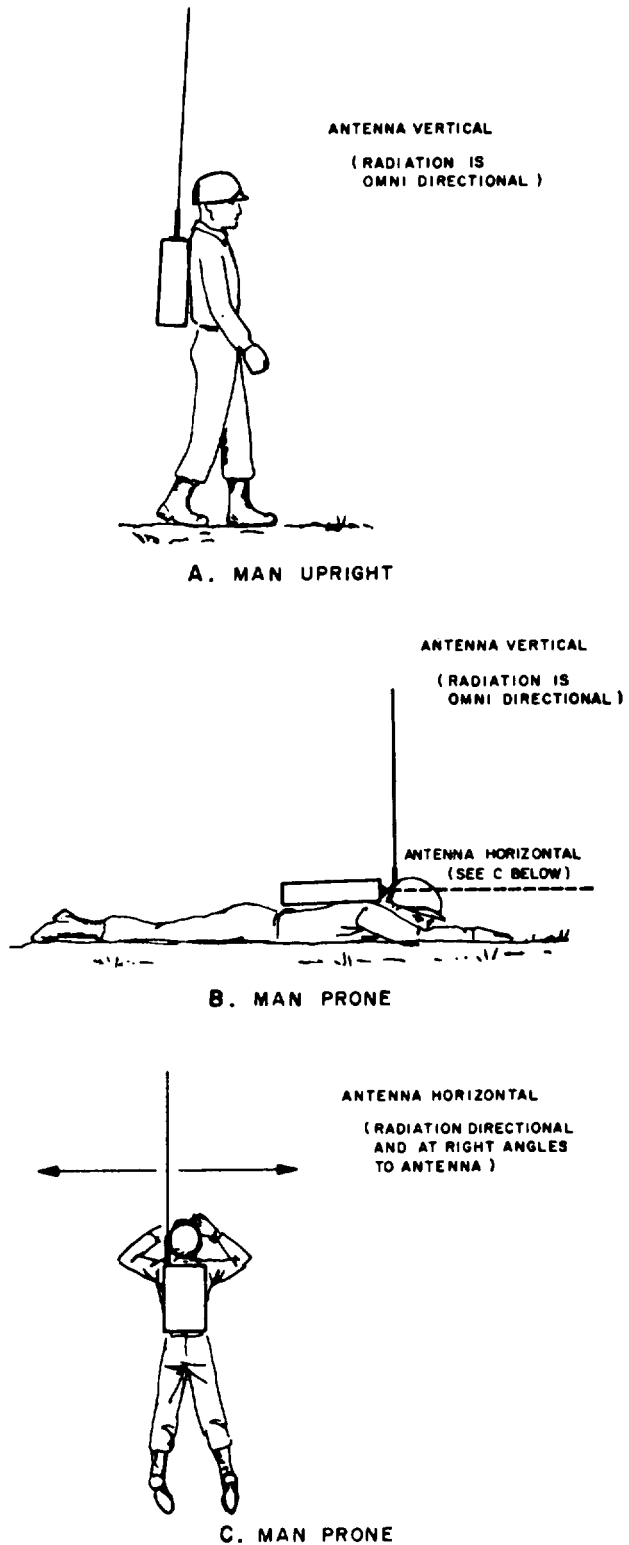

Figure 2-5. Orientation of AT-892/PRC-25 in various positions on user
d. *Orientation of AT-892/PRC-25.* The AT-892/PRC-25 (fig. 1-2) is "provided with a spring base to permit positioning the antenna other than vertically to the top of the receiver-transmitter. For beat communication, the antenna should be vertical to the ground (A and B, fig. 2-6). When the operator or the receiver-transmitter is in a position other than vertical, the antenna should be adjusted so that it is vertical to the ground. If the vertical position would reveal the operator's location, the antenna can be positioned so that it is horizontal to the ground (C, fig. 2-5). Under this situation, the direction of communication is broadside to the antenna.
To obtain best operating range (distance), keep the whip antenna vertical to the ground. See figure 2-5 for various positions the user can position himself/herself to keep the short antenna vertical.